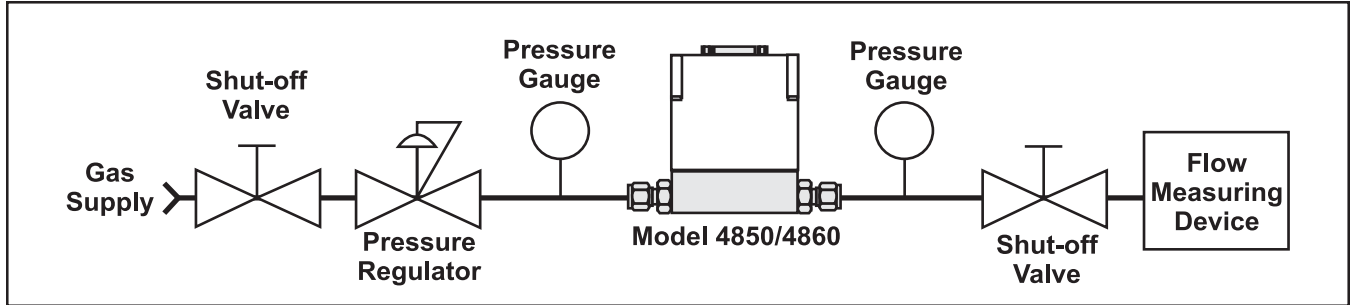

Figure 4-1 Bench Troubleshooting Circuit
1. Establish a proper connection between the Brooks 48xx Series Mass Flow Meter or Controller (using Figure 4-1 as a reference). Switch on the power and allow the instrument to warm-up for 15 minutes. In case of a Controller model, adjust the Setpoint to zero. Do not connect the device to a gas source yet. Observe the output signal and, if necessary, perform the zero adjustment procedure (see Section 3 for information about the zeroing function). If the output signal does not zero properly, please contact Brooks Instrument.